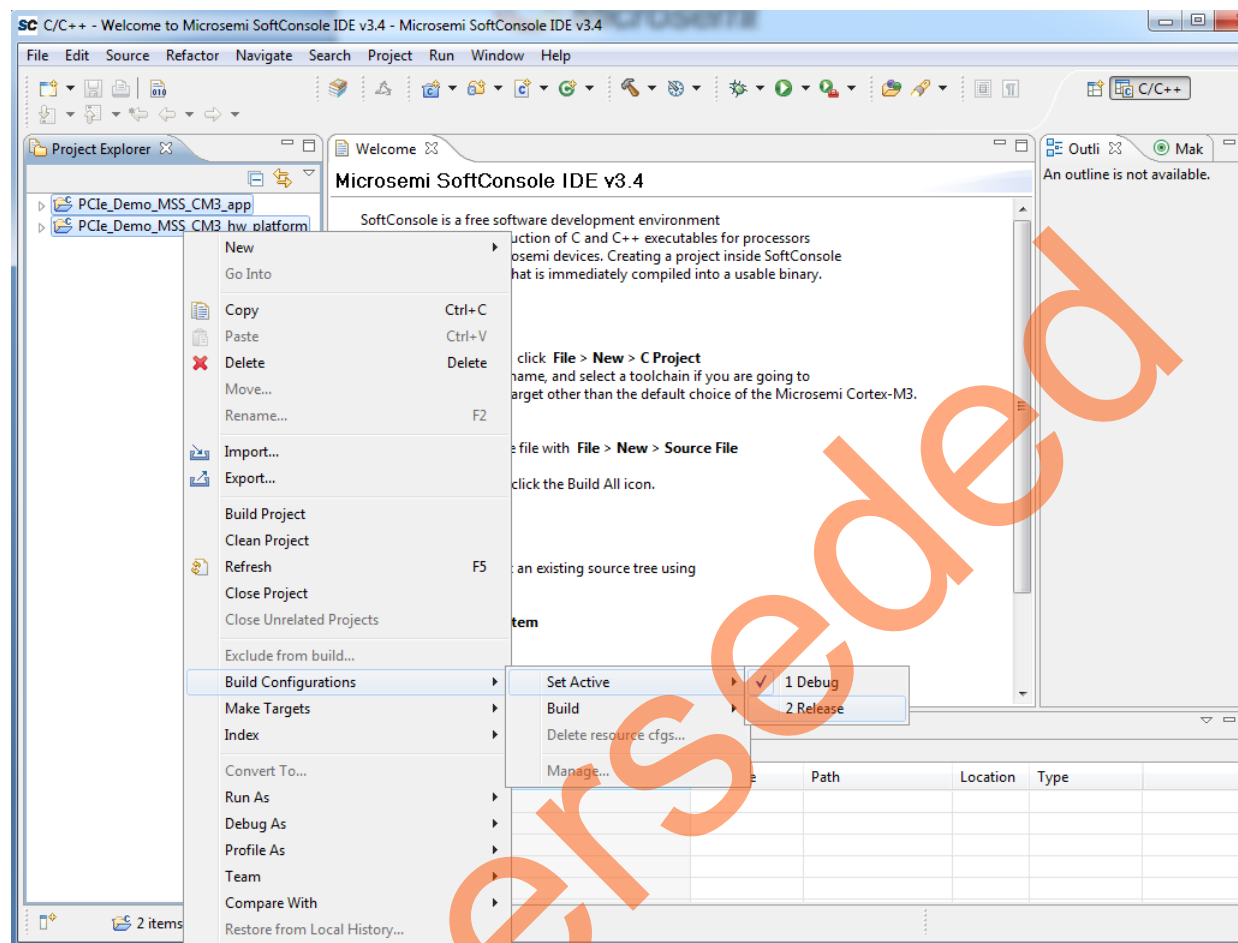

Figure 31 • Release Mode Option
- Right-click and select **Build Configurations > Set Active > Release** as shown in Figure 31.